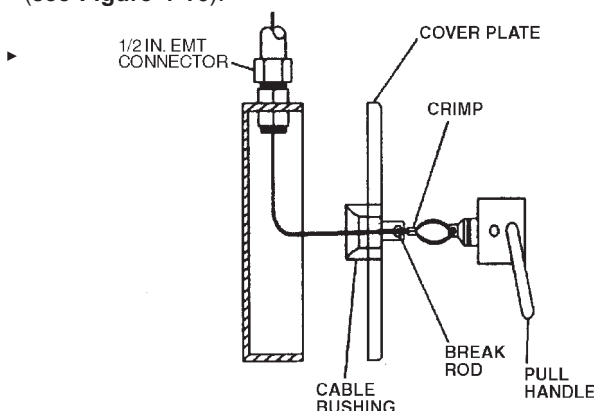

Figure 4-16. Model RPS-M Remote Pull Station Installation.
- ▶ After mounting the pull station box and conduit, feed the stainless steel cable from the control head, through the conduit, and into the pull station box. Insert the bushing into the pull station's cover plate and secure it with the locknut provided. Feed the cable through the bushing and into the pull handle ensuring that the cable fully crosses the set screw hole. Fasten the cable to the pull handle with the set screw (see **Figure 4-16**).